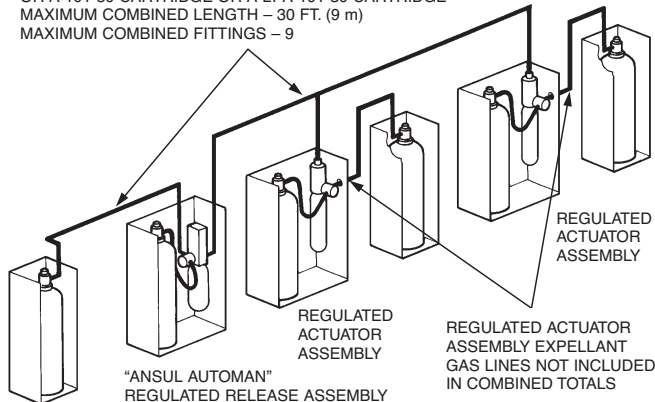

FIGURE 81
3. If an expellant gas line is connected to the regulated release assembly along with an actuation gas line, the total combined length of the actuation and expellant gas line **must not exceed** 30 ft. (9 m) when using a “double-tank” nitrogen cartridge or a LT-A-101-30 nitrogen cartridge or a 101-30 carbon dioxide cartridge. See Figure 81.
3. If two tanks are connected to the regulated release assembly in a multiple-tank system arrangement, the total combined length of the actuation and expellant gas lines **must not exceed** 30 ft. (9 m) when using a “double-tank” nitrogen cartridge, an LT-A-101-30 nitrogen cartridge, or a 101-30 carbon dioxide cartridge. See Figure 81.